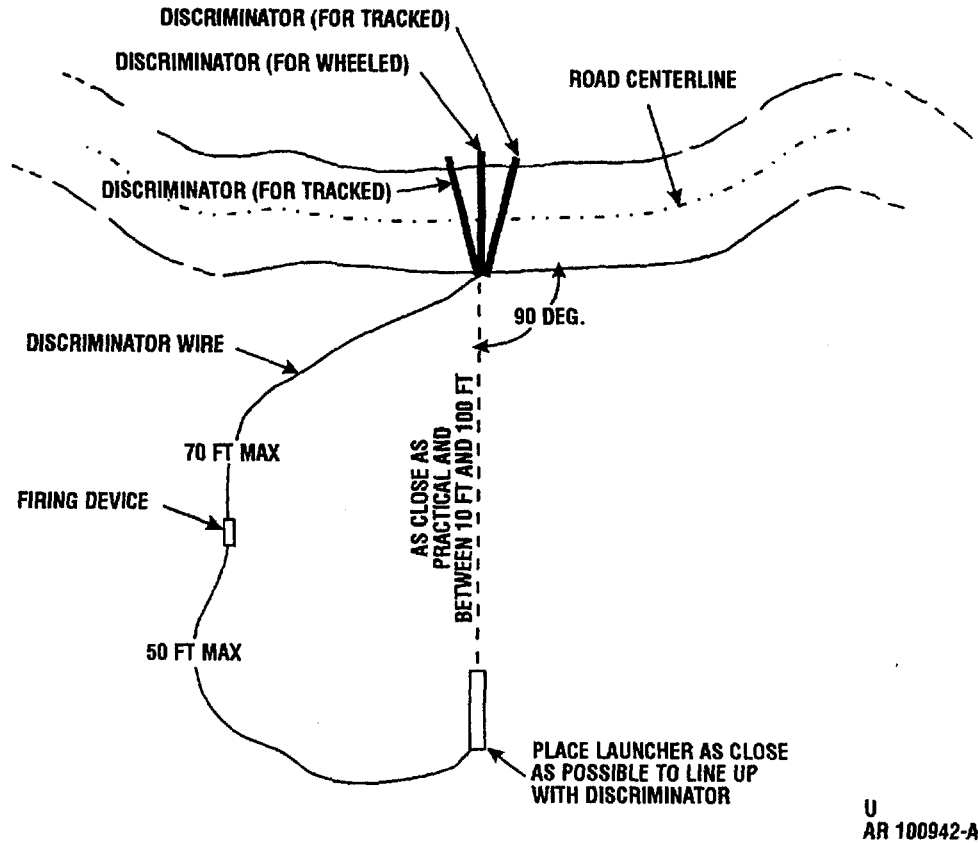

Figure 2-64. Preferred launcher placement.
- (4) If indicator light does not glow, do not use system.
- (5) If system is operable, temporarily disconnect discriminator wire from firing device.
- (6) Carefully remove launcher from dispenser pouch and place in selected position. (Launcher will operate most effectively at about 90° angle from target road or path at between 3-30 meters (10 to 100 feet)) (fig. 2-64).
(9) Move to site selected for launcher. Assure that intended launcher position affords clear line of fire to target impact area (fig. 2-64).